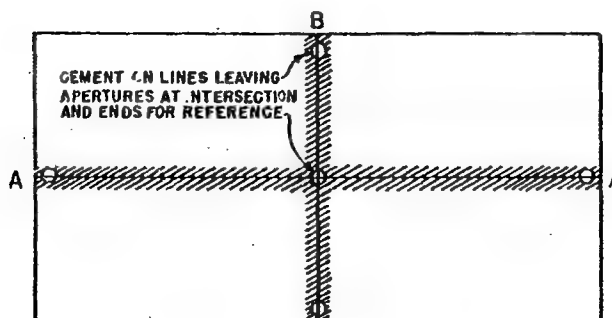
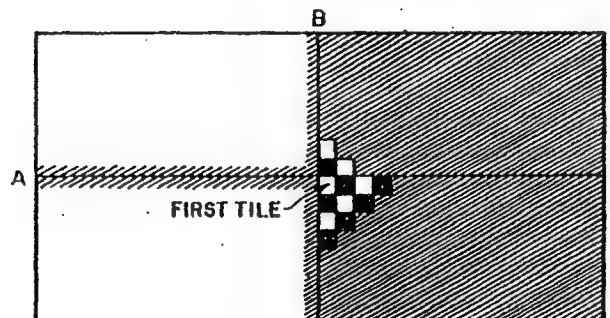
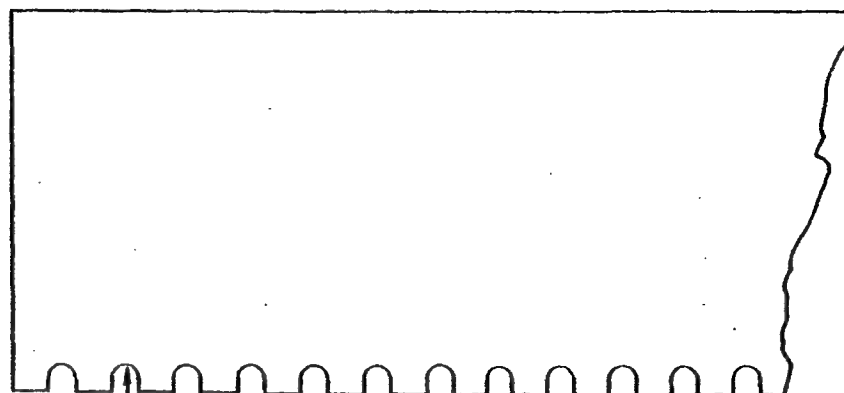

FIG. 3
FIG. 4
FIG. 5
- 4- TROWEL NO 1000 FLOOR TILE CEMENT OVER LINES AND ALLOW TO DRY FOR ONE-HALF HOUR. (SEE FIG. 3.) RE-SNAP LINES ON TOP OF ADHESIVE TO BE USED AS WORKING LINES. SPREAD CEMENT OVER ONE HALF OF ROOM (SEE FIG. 4), AND ALLOW ADHESIVE TO DRY UNTIL IT BECOMES 'TACKY'. APPLY ADHESIVE WITH NOTCHED SPREADER (FIG. 5). BEAR DOWN HARD SO THAT ONLY THE ADHESIVE Oozing THROUGH NOTCHES REMAINS ON FLOOR. DO NOT USE STRAIGHT-EDGED TROWEL.
- 6- START LAYING TILE FROM THE CENTER-LINE INTERSECTION (FIG. 4) AND CONTINUE TO LAY TILE IN A SEMI-CIRCLE, WORKING ON TOP WHEN SUFFICIENT TILE IS LAID.